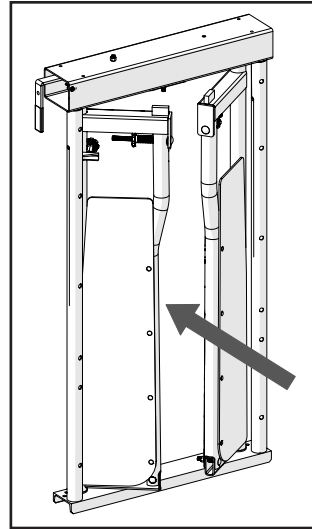

Figure 5: Loading the animal
1. With the doors properly adjusted, load the animal. The animal should approach the headgate from the rear of the machine, as shown (Figure 5).